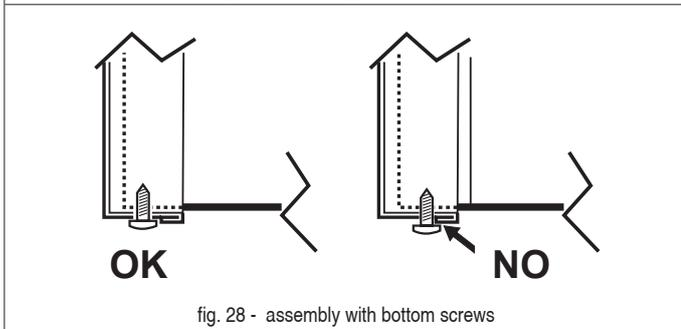

fig. 28 - assembly with bottom screws
- Proceed in reverse order to reassemble the front panel. Make sure that it is correctly attached to the upper fixing and completely resting on the side panels. The head of the screw "A", once tightened, must be positioned as indicated in "fig. 28 - assembly with bottom screws").